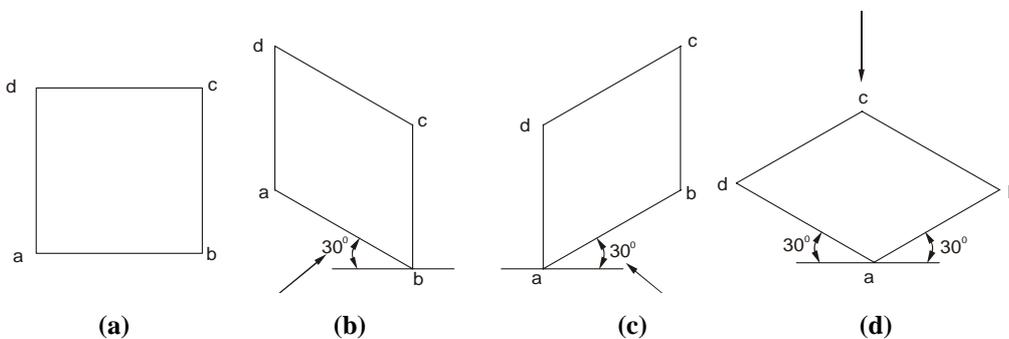

Figure 5.5
Draw the square as shown in Figure 5.5(a).
The square can be projected isometrically in three different ways, as shown in Figure 5.5.
$bcda$  is the isometric drawing of the square  $abcd$  and it gives a feeling as if we are viewing perpendicular to the line  $ba$  and from the left to the right side as shown in Figure 5.5(b).
Another way in which the square could be projected is given in Figure 5.5(c). The procedure is exactly similar, but the  $30^\circ$  angle is to be drawn on the right hand side. This gives a feeling as if we are looking the square in a direction perpendicular to the side  $ab$  and from the right to the left.
- (d) Figure 5.5(d) represents the isometric drawing of the square when the square is considered horizontal.